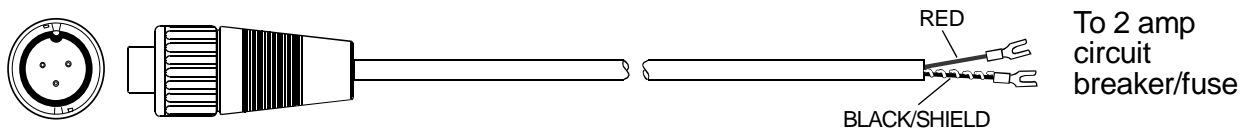

Figure 15: C98-20PW Power Cable
- q Using the wire cutters and wire strippers, prepare the end of the cable as necessary for your installation (**Figure 15**).